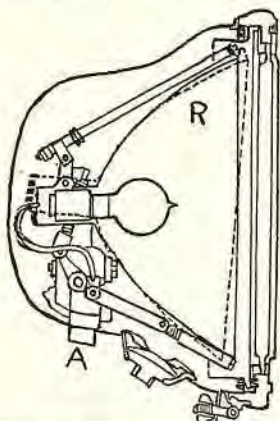

Fig. 19. Tilting reflector as used on model V-63 Cadillac
On some makes of lamps the reflectors are arranged so that the reflectors can be tilted. One method is as shown in Fig. 18, and another (Fig. 19). There is also an electric method (not shown).
The reflectors are pivoted, in order that they may be tilted by means of a button on the instrument board connected with an arm (A) projecting from the bottom and connected with the reflector (R). The lever pulls the reflector down (as indicated by dotted lines), thus tilting the reflector (Fig. 19).